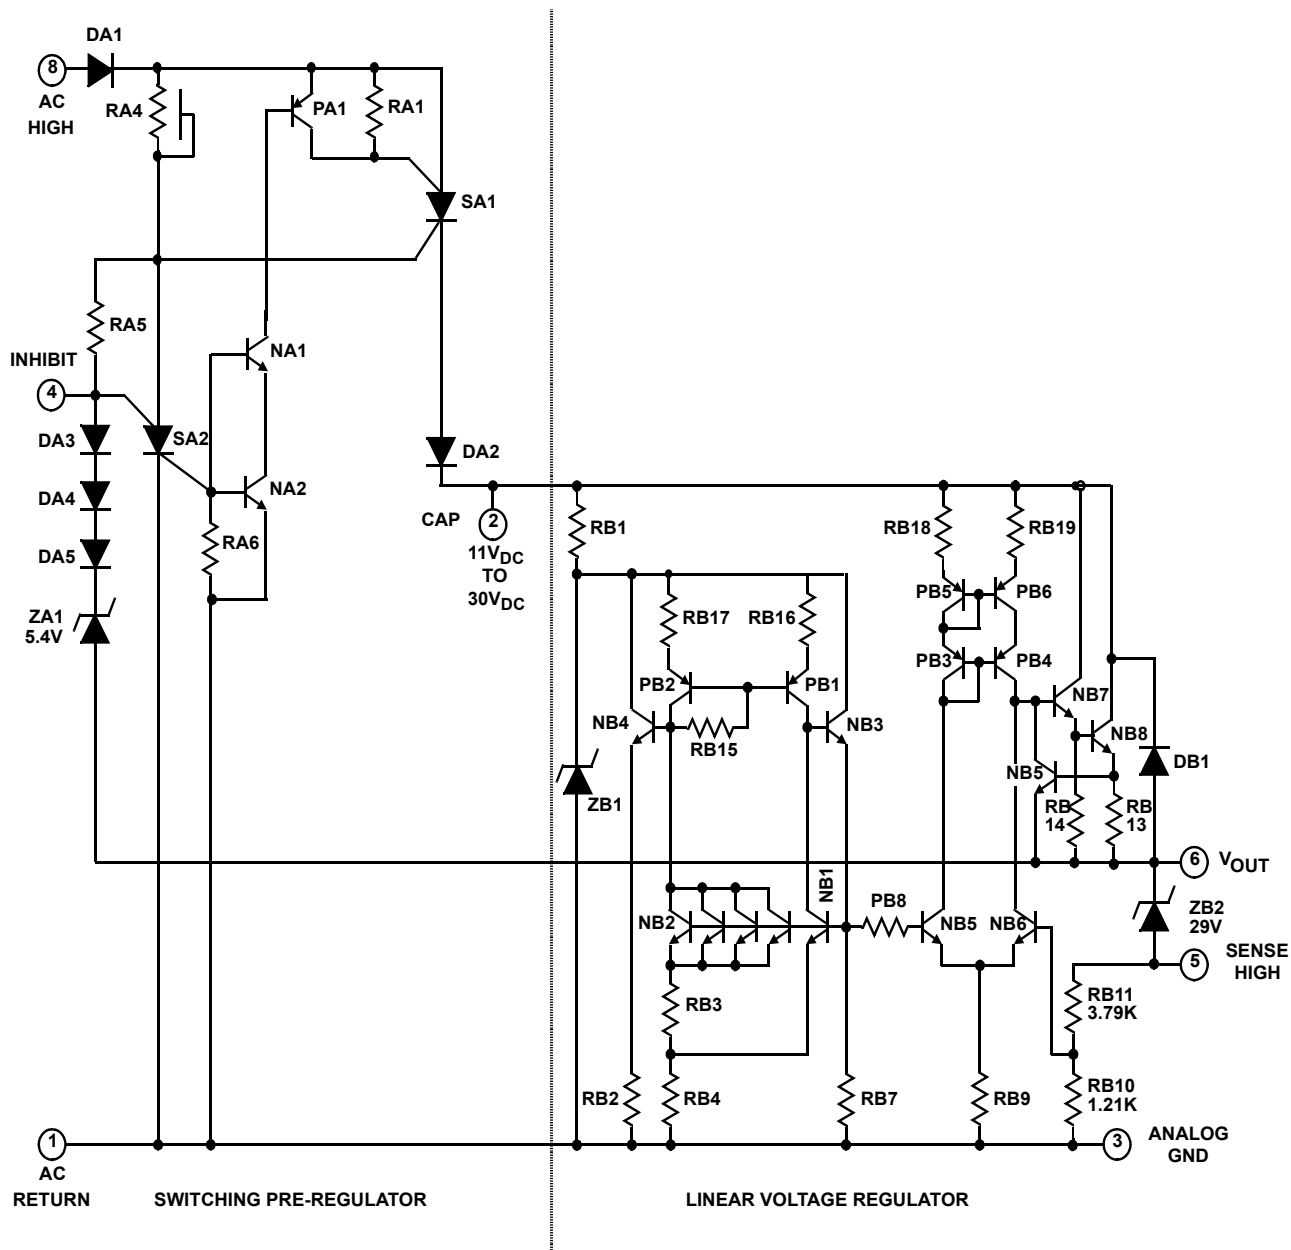

FIGURE 16. HV-2405E SCHEMATIC DIAGRAM
The HV-2405E converts an AC voltage into a regulated DC voltage. This is accomplished in two functional sections (1) Switching Pre-Regulator and (2) Linear Voltage Regulator. Refer to HV-2405E schematic Figure 16.